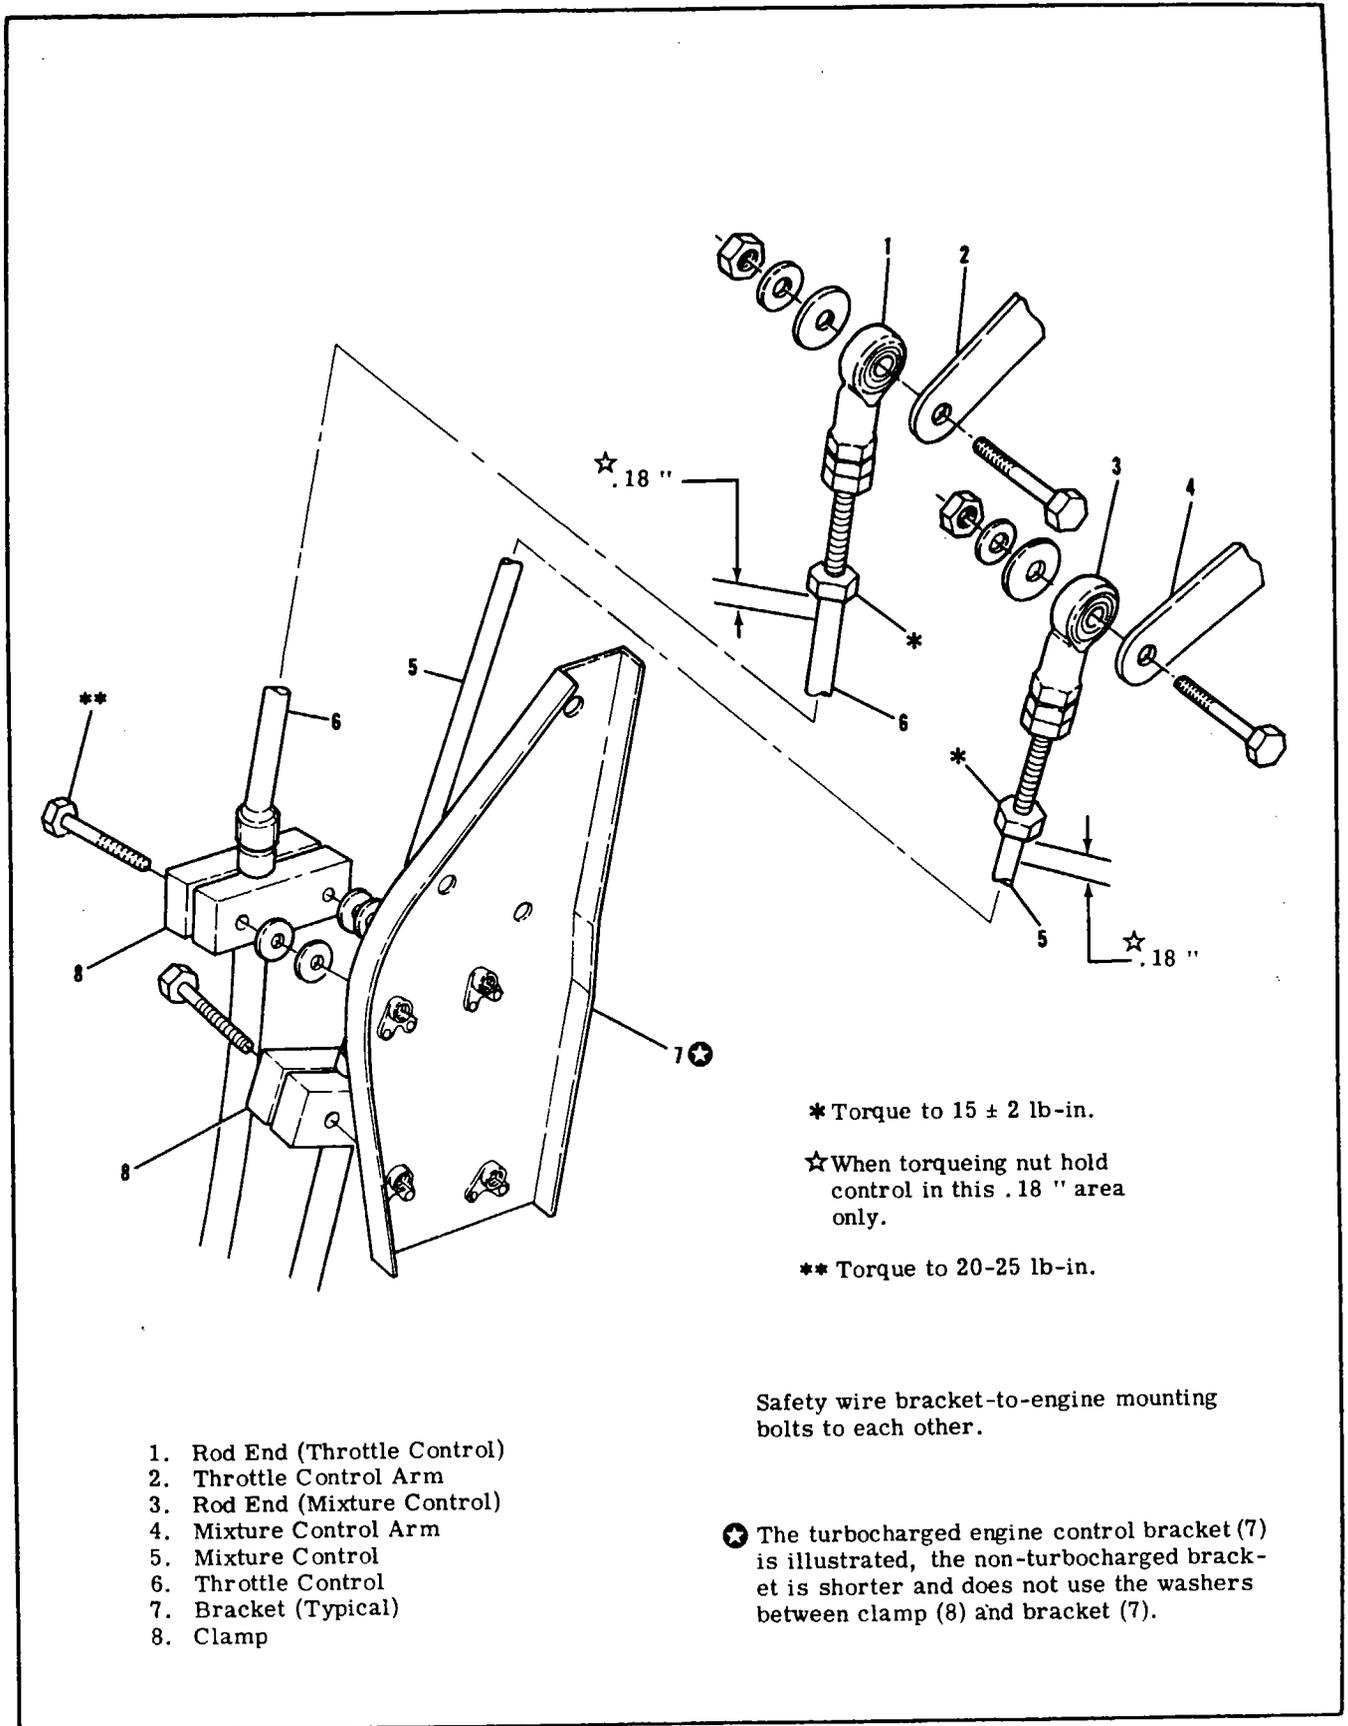

Figure 12-10A. Engine Controls
■ 12-82. **ENGINE CONTROLS.** Refer to figure 12-10A.